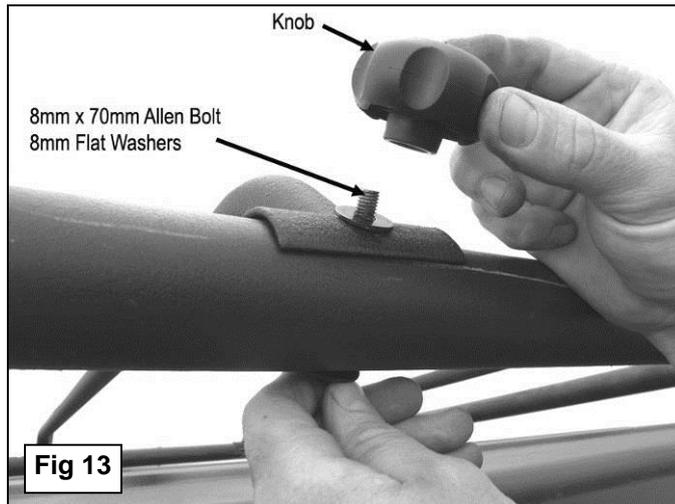

Fig 13
13. **NOTE:** All Basket Holder Cross Rails are different sizes with the shortest to the front, mid length to the center and the longest to the rear of the Roof Rack. Locate the shortest Cross Rail and position it over the mounting bolt holes toward the front of the Side Rails, **(Figure 13)**.
14. To secure the Basket Holder Cross Rail to Side Rails, insert (1) 8mm x 70mm Allen Bolt with (1) 8mm Small Flat Washer up through the bottom hole in the Side Rail and through Cross Rail. Place (1) 8mm Flat Washer over the bolt and secure it with the included Plastic Knob, **(Figure 13)**.